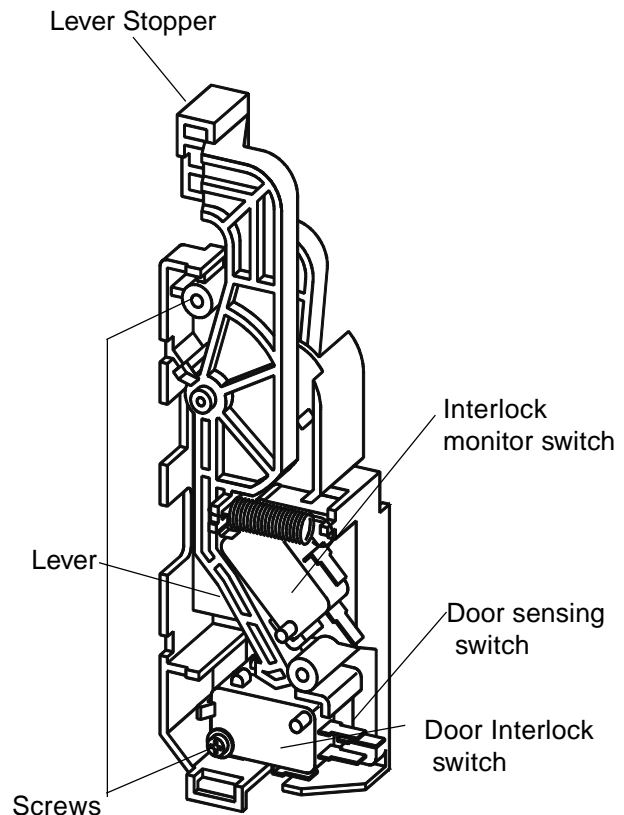

Figure 1
A. INTERLOCK SWITCH AND DOOR SENSING SWITCH ADJUSTMENT (Figure 1)
- (1) Loosen 2 screws securing the lever stopper.
- (2) Adjust the lever stopper position so that it is pushed up and rotated counterclockwise until there is zero gap between the latch and the switch bodies when the door latch is securely locked.
- (3) Tighten the lever stopper screws securely.
- (4) Make sure the latch interlock switch and the door sensing switch open before the interlock monitor switches closes when the door is opened very slowly, according to "CHECKOUT PROCEDURE FOR SWITCHES" on page 7.
- (5) Make sure the microwave energy leakage is below the limit of the regulation 5 mW/cm^2 when measured with a detector.
B. DOOR INTERLOCK SWITCHES ADJUSTMENT (Figure 1)
- (2) Adjust the lever stopper position so that it is pushed
(See Figure 1 on page 1)